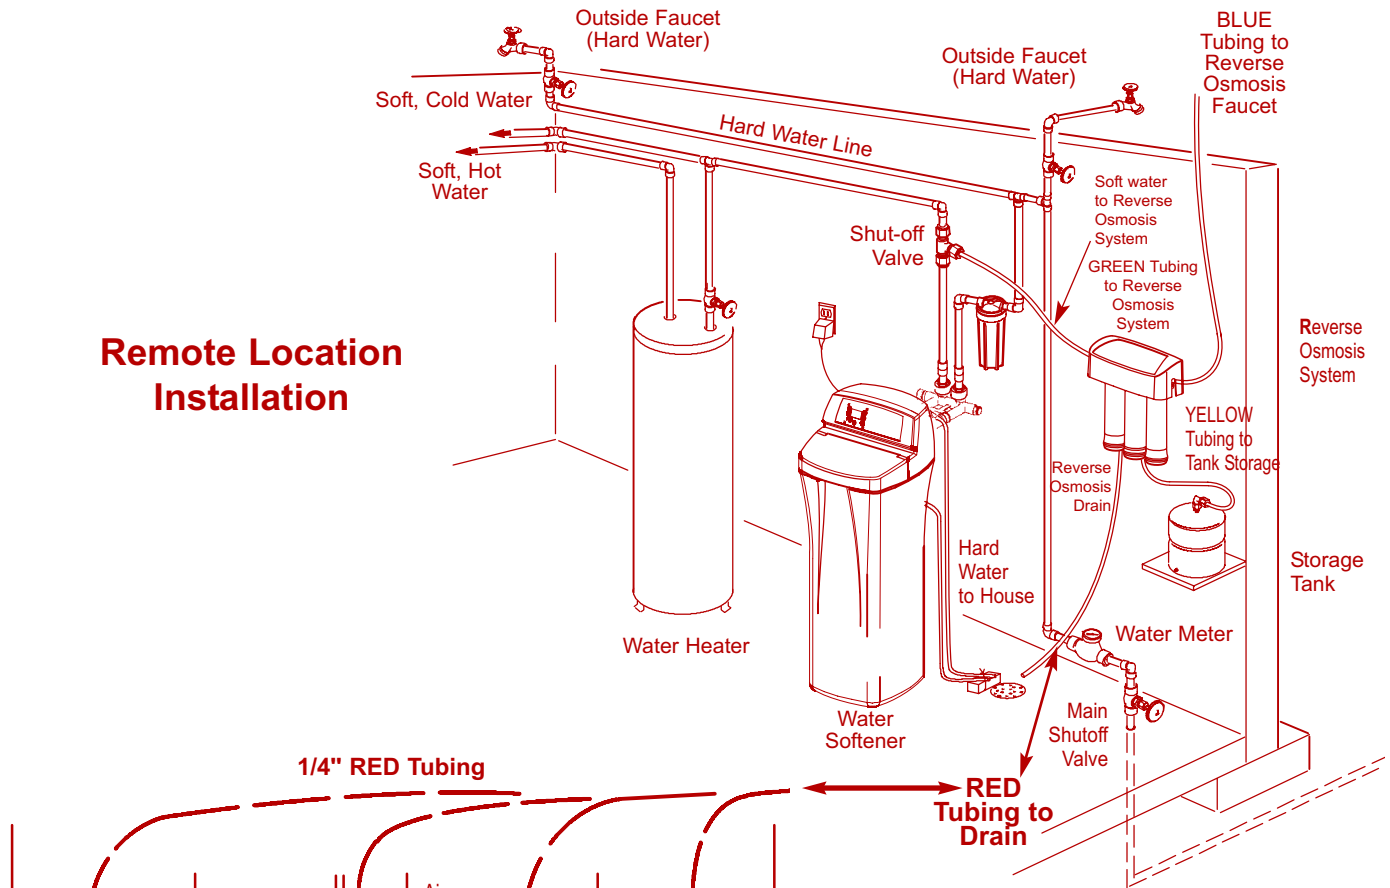
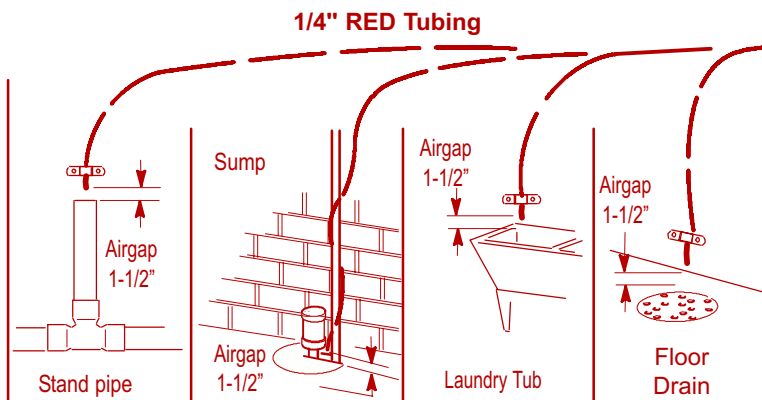

FIG. 9
FIG. 10
(See Fig 9, Fig. 10) This is usually used in remote location type installations. The drain tube from the Reverse Osmosis Filter runs directly to an open drain. See Fig. 9 & 10.
You can also run the drain tubing to an existing drain in the house. A floor drain, laundry tub, standpipe, sump, etc. are suitable drain points. See Fig. 10. This type of drain is the preferred over the p-trap drain adapter. Check your local codes. Longer lengths of tubing (see parts list in back of manual) may be needed.
1. Locate the 1/4" red tubing on the Reverse Osmosis filter assembly. See Fig. 9.
4. Run the tubing to the drain point and secure at the end with a bracket (purchased locally). See Fig. 10. Provide a 1-1/2" air gap between the end of the tube and the drain. See Fig. 10.